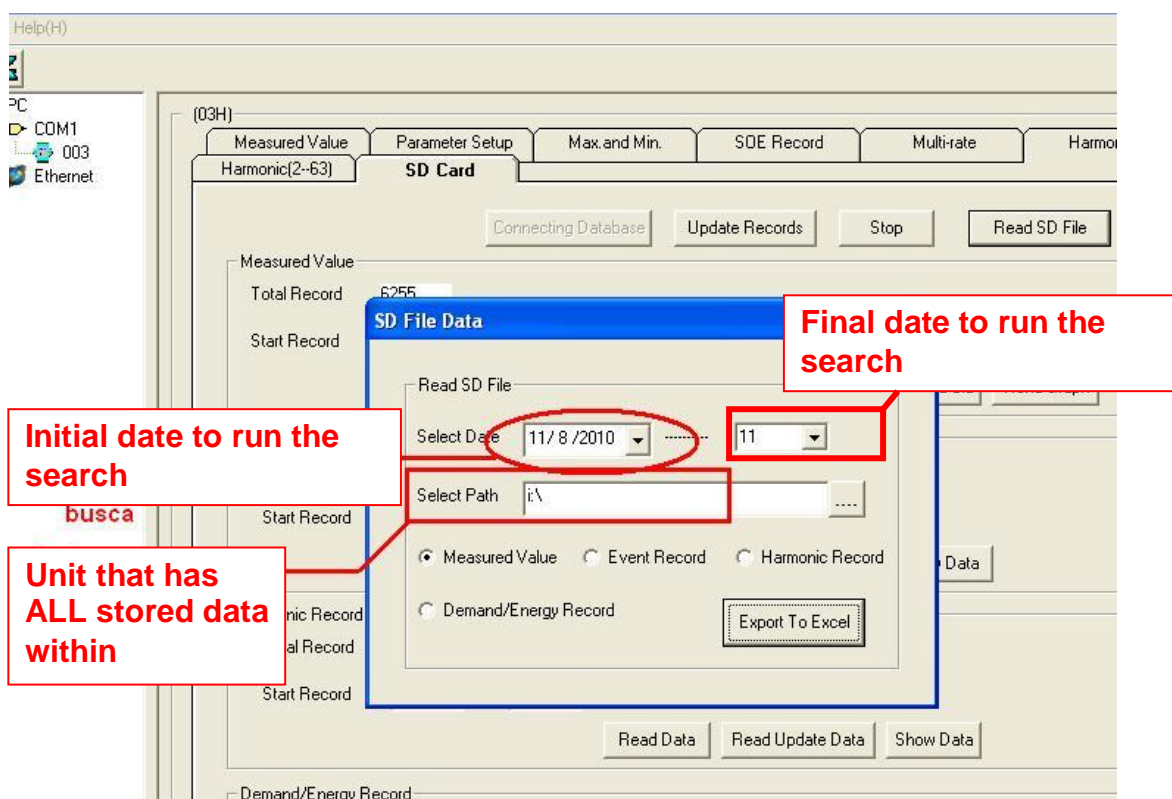

Figure 6-47. SD Card Data Reading Window
- On Figure 6-47, on the tab "SD Card" (this tab is only available if the PH3x31 module is inserted in the Multifunction Power Meter) click on "Read SD File".
- Only the highest level folder ("i:\") must be informed as on Figure 6-47.